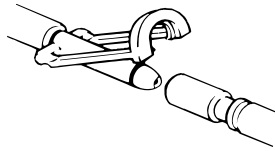

Figure 50 – Clik-Tite open
- b. If you have **Clik-Tite** hoses, make sure that the connectors and clamps are open (Figure 50).